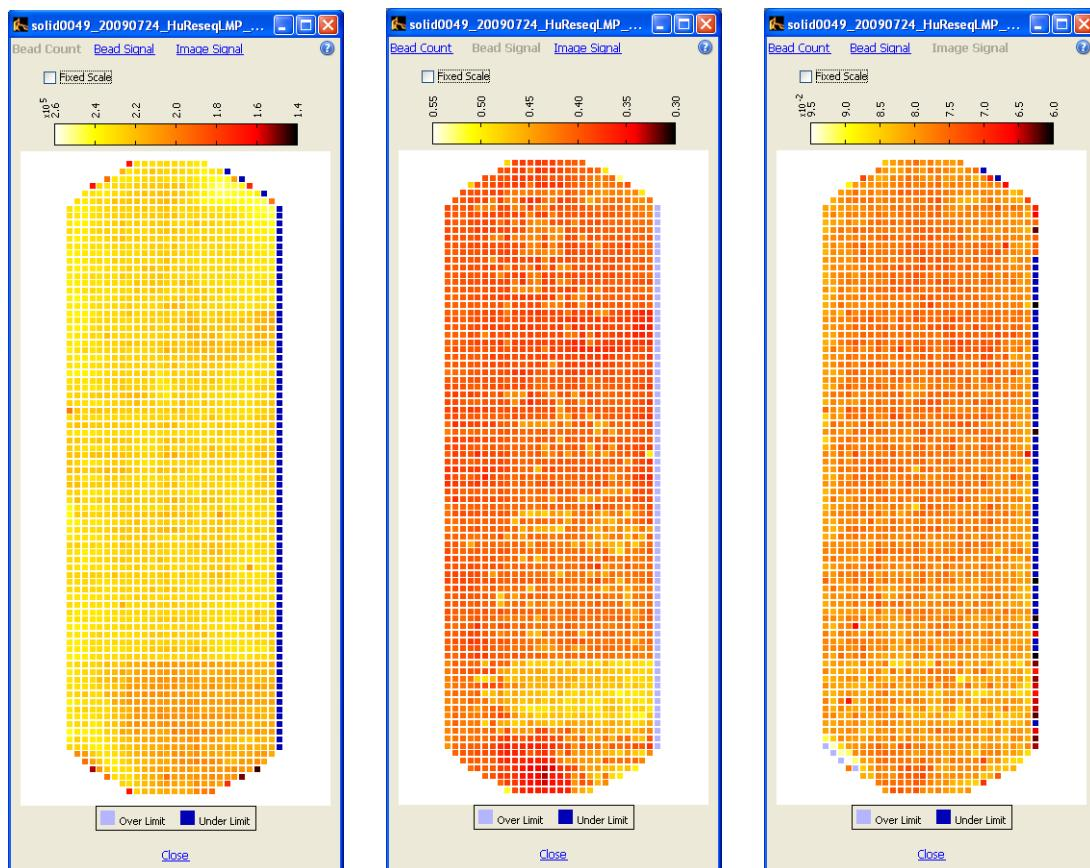

Figure 66 Bead Count (left), Bead Signal (center), and Image Signal (right) heat maps.
1. To view the heat map showing bead densities found in the focal map images, click **Heat Map** located at the top right corner of the flowcell panel (see Figure 66 on page 72).